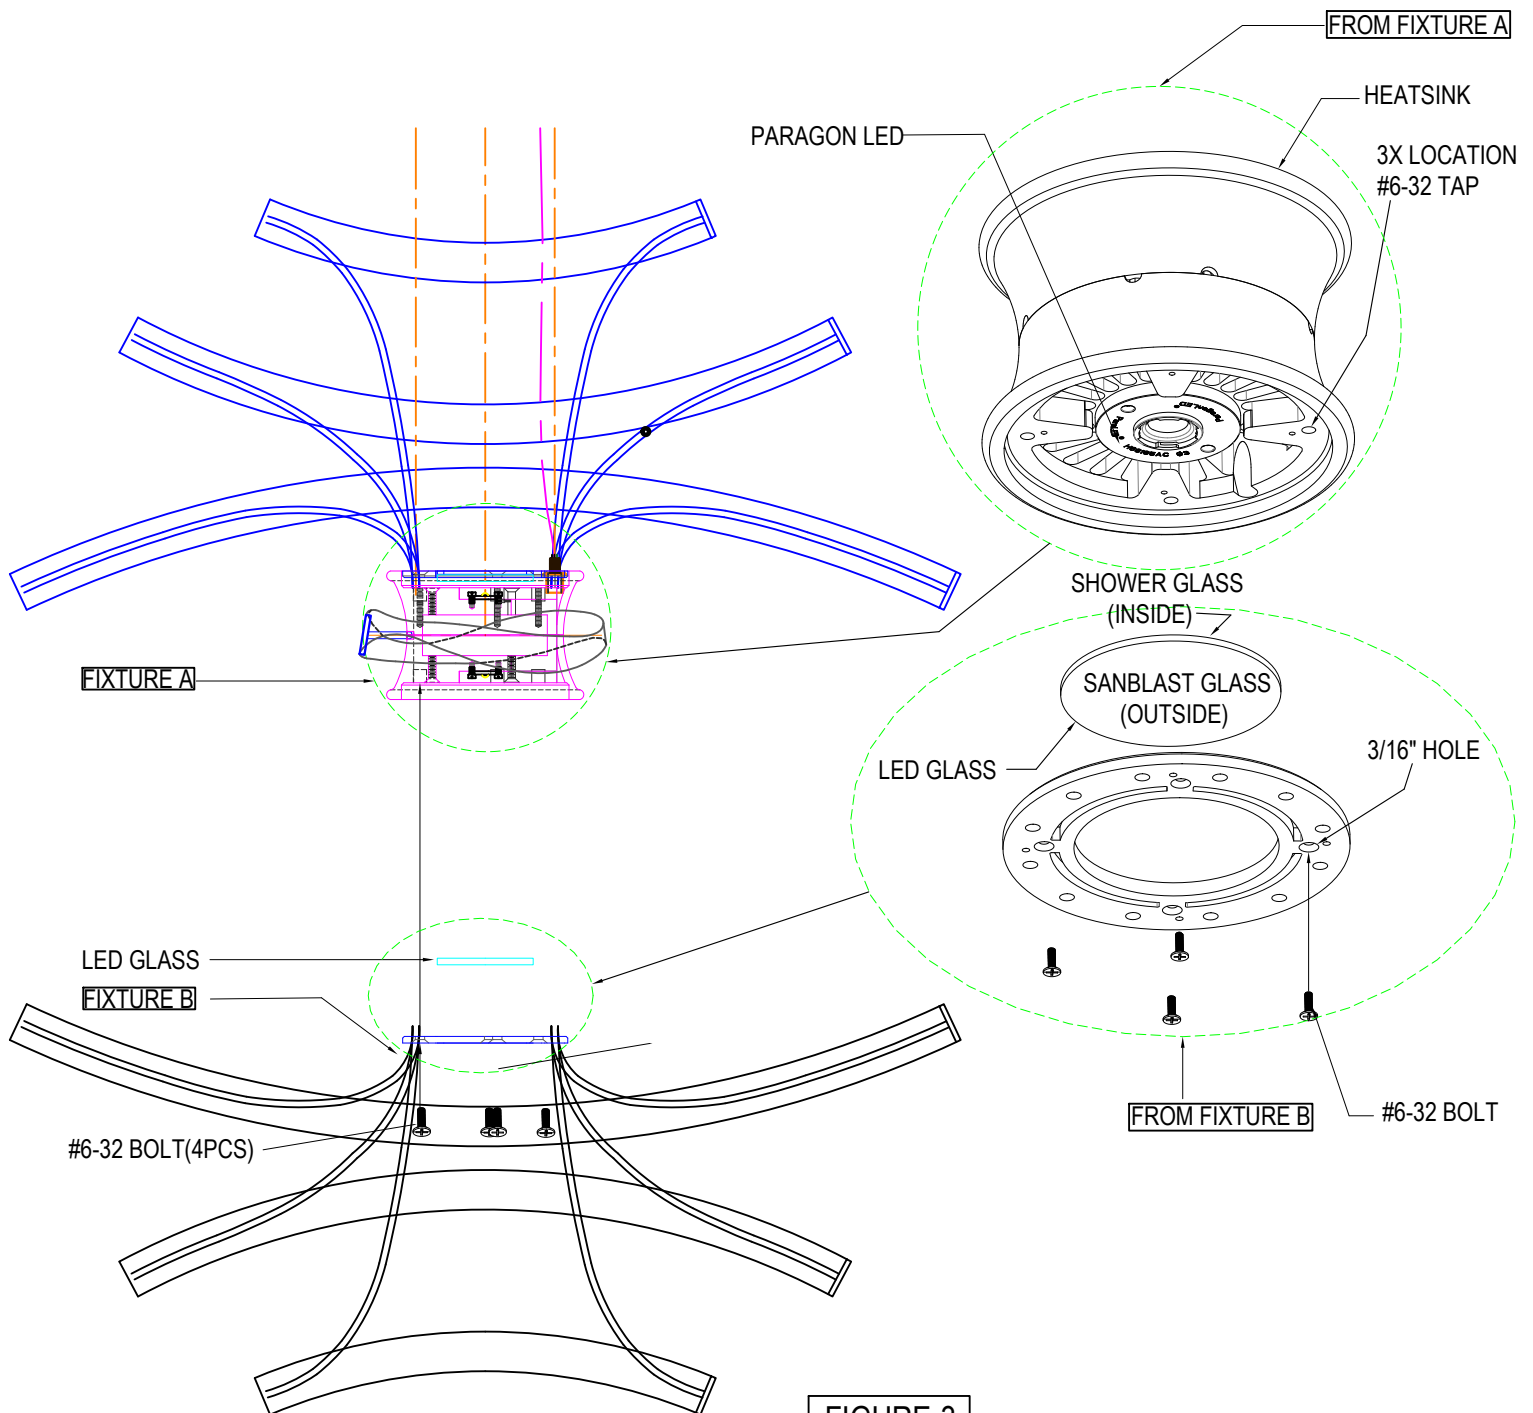

FIGURE-3
2. Identify Fixture B, place the glass on the top of fixture. Refer to Figure-3.